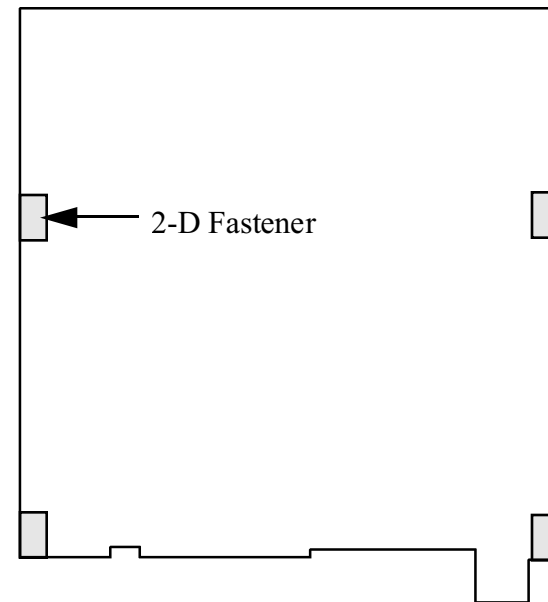

Figure 6-2
Turn the board over. (Figure 6-2 shows the bottom side.) Four *2-D fasteners* will be attached to the RF board at the indicated locations to secure it to the chassis panels.
- Install 2-D fasteners at the four locations indicated in Figure 6-2, on the *bottom* of the RF board. Secure each fastener from the top side of the board with 3/16" (4.8 mm) pan-head screws and #4 split lock washers (Figure 6-3b).